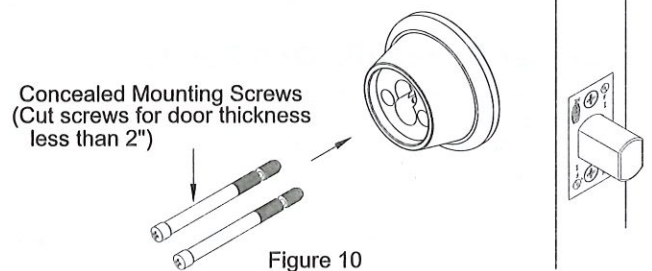

Figure 10
- Secure the turn knob assembly and the cylinder to the door with the concealed mounting screws supplied as shown in Figure 10. (Cut screws for door thickness less than 2")